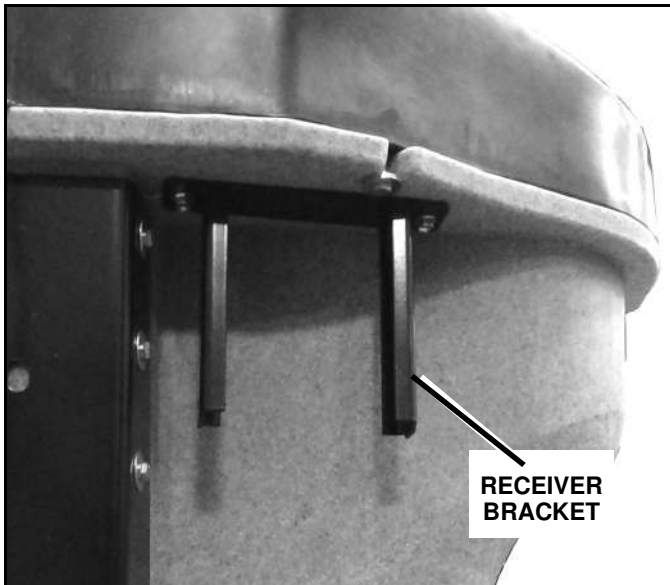

Figure 1-5
1. Remove the receiver bracket from the package and place it under the top lip of the spreader hoper on the driver's side (See Figure 1-5).